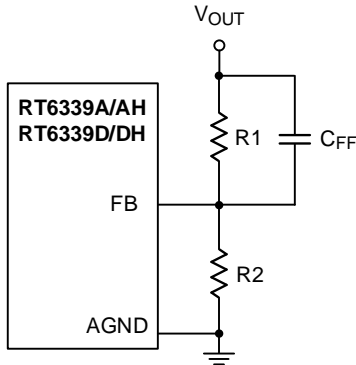
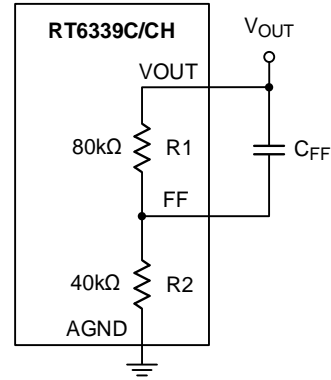
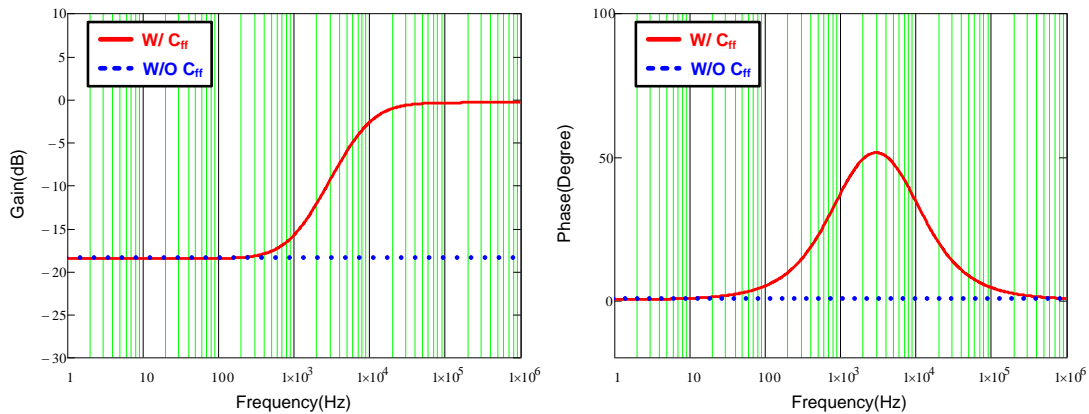

Figure 16. RT6339A/AH/D/DH Feedback Loop with Feedforward Capacitor
Figure 17. RT6339C/CH Feedback Loop with Feedforward Capacitor
Figure 18. Bode Plot with Different Feedback Loop Conditions
To save time for compensator design and to reduce the layout area through external components, the components of compensator are integrated in the IC. However, this integrated compensator might not be suitable for every load transient specification. Hence, to make RT6339 more adaptable, the feedforward capacitor CFF is used in the feedback loop to improve transient response, as shown in Figure 16 and Figure 17. Figure 18 shows the comparison result of bode plot
with different feedback loop conditions. Referring to Figure 18, through connecting a C_{FF} in feedback network, the gain and phase are raised in mid-frequency, which not only extends the bandwidth, but also boosts the phase margin. Moreover, there is also a high frequency pole to eliminate high frequency noise. Consequently, those features of feedforward feedback network allow the RT6339 to have faster response to different load transients.
According to Figure 18, the maximum phase boost that occurs between zero and pole frequencies is defined as maximum phase boost frequency, as expressed in equation (4). Hence, in order to achieve the maximum phase boost by adding C_{FF} in the RT6339, the system's original bandwidth has to be located at maximum phase boost frequency.